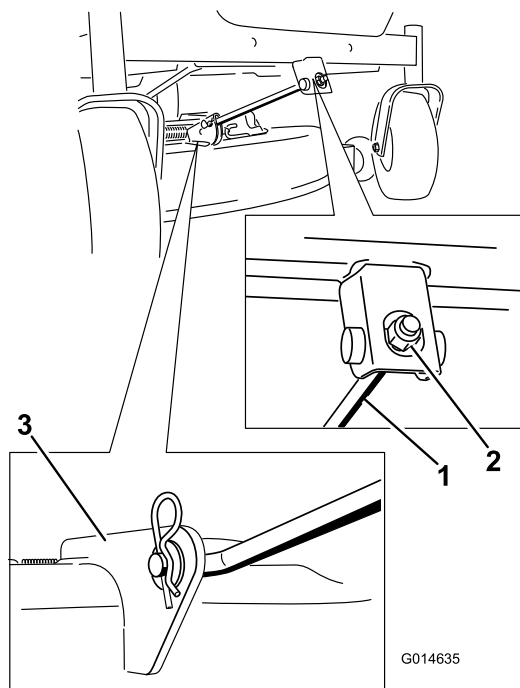

Figure 52
4. Remove the hairpin cotter from the front support rod and remove the rod from the deck bracket (Figure 52). Carefully lower the front of the mower deck to the ground.
6. Attach the front support rod to the mower deck with the clevis pin and hairpin cotter (Figure 52).